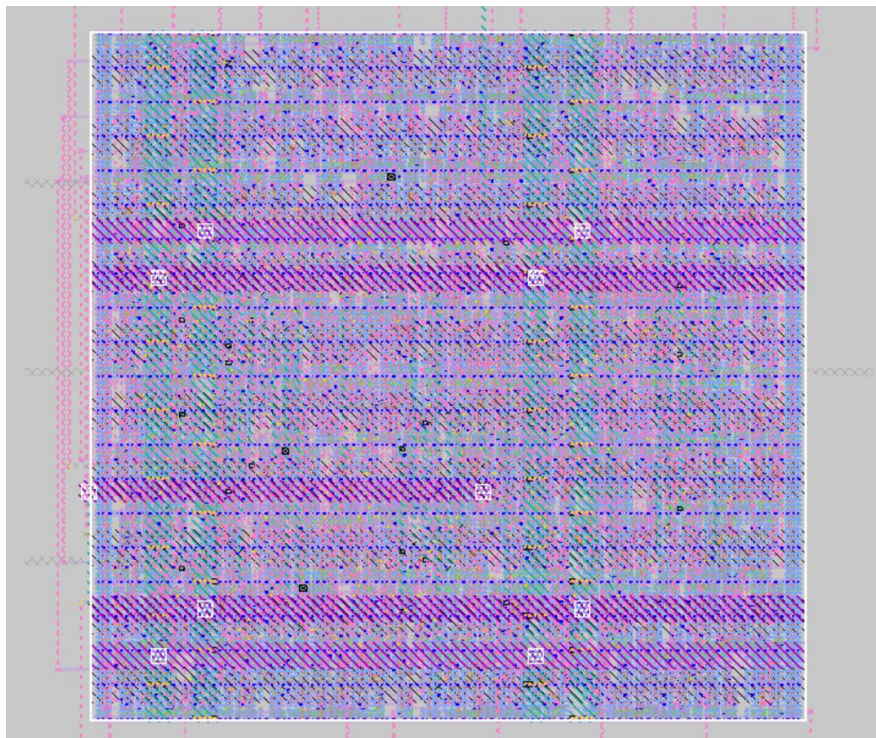

Figure 1: Example final layout (read from gds) of the alu design
5. Go to the signoff folder and read the final gds on Magic → select entire design → in the Cell option, click on expand to view the entire layout of the design. Your layout must look like Fig. 1 below.